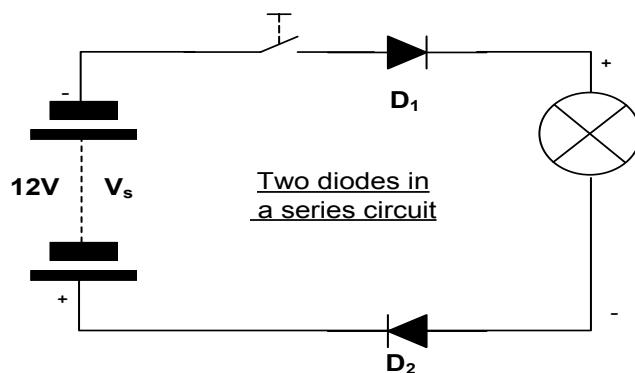

Figure 8
- Remove diode D_2 and reconnect it in circuit as shown in Fig. 8.